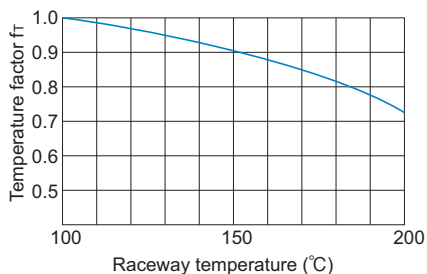

Fig.9 Temperature Factor (f_T)
f_T : Temperature factor (see Fig.9 on **A1-68**)
- f_T : Temperature factor (see Fig.9 on **A1-68**)
If the temperature of the environment surrounding the operating LM Guide exceeds 100°C, take into account the adverse effect of the high temperature and multiply the basic load ratings by the temperature factor indicated in Fig.9.